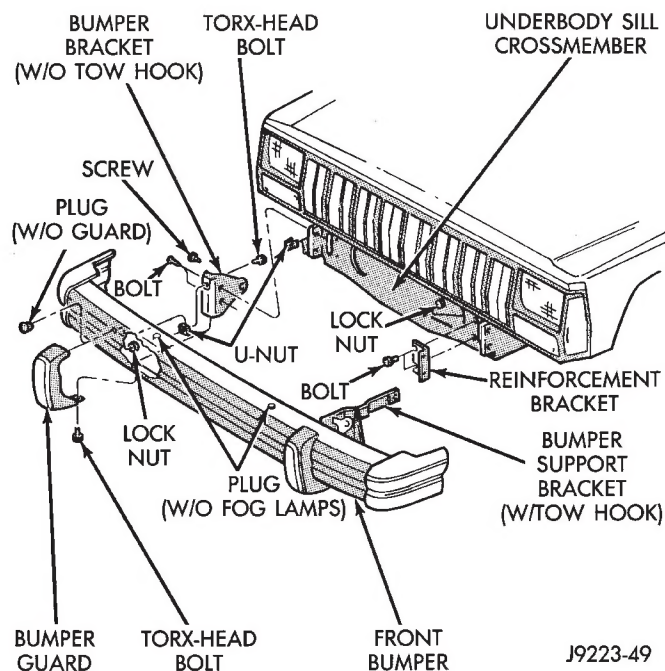
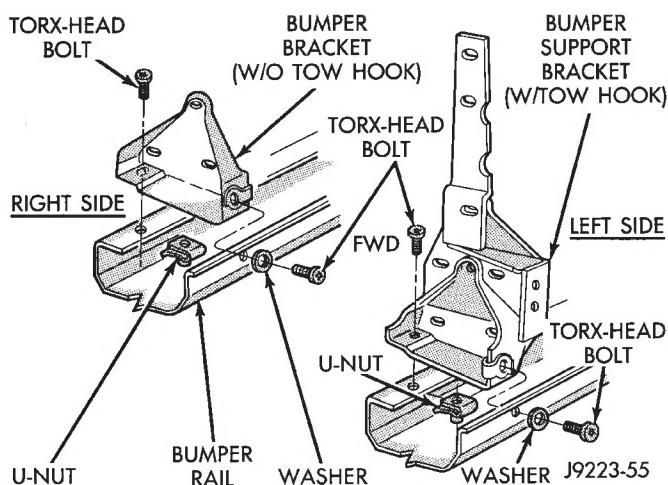
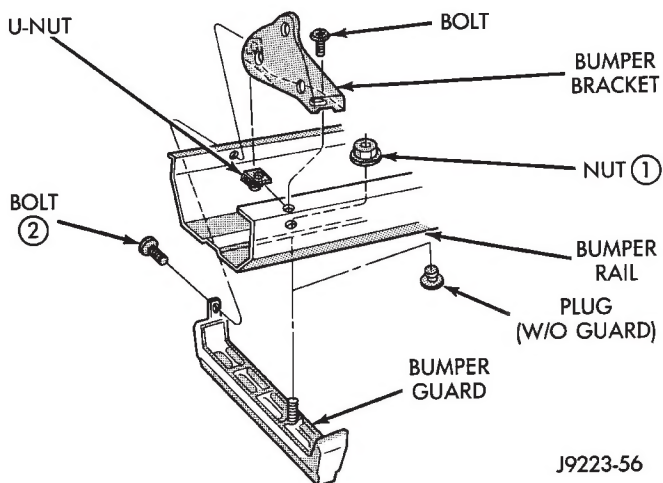
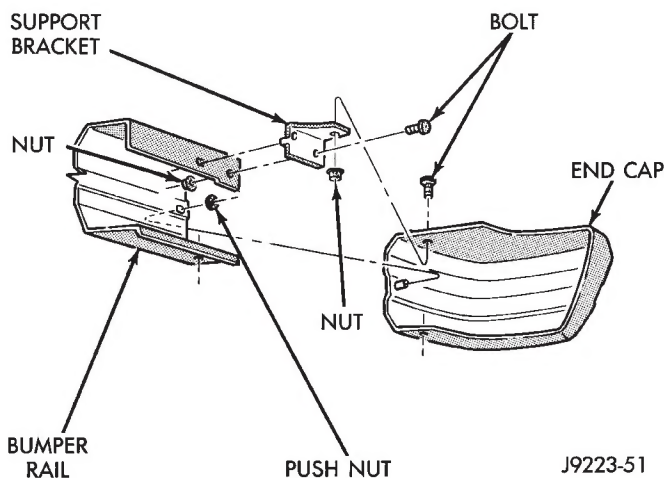

Fig. 5 Front Bumper Removal/Installation
Fig. 6 Bumper Support Bracket Removal/Installation
Fig. 7 Bumper Guard Removal/Installation
Fig. 8 Bumper End Cap Removal/Installation
(5) Detach the tow hook straps from the sillmember.
(6) Support the bumper.
(7) Remove the bolts that attach the bumper support brackets to the right and left sillmembers (Fig. 5).
(8) Remove the support and the bumper from the vehicle (Fig. 5).
(9) Remove the nuts and bolts that attach the tow hooks to the bumper support brackets.
(10) Remove the support brackets (Fig. 6), bumper guards (Fig. 7) and caps (Fig. 8) from the bumper rail.
(2) If equipped, install the bumper support brackets and bumper guards on the bumper rail. Tighten hardware in the sequence indicated in (Fig. 6). Tighten the locknuts with 20 N·m (15 ft. lbs.) torque. Tighten bolts to 56 N·m (41 ft. lbs.) torque.
(3) If not equipped with bumper guards, install the bumper support brackets on the bumper rail. Tighten bolts to 56 N·m (41 ft. lbs.) torque.
(4) Install tow hooks. Tighten nuts with 100 N·m (74 ft. lbs.) torque.
(5) Install the bumper end caps on the bumper rail. Tighten nuts with 8 N·m (72 in. lbs.) torque.
(6) Install the license plate bracket on the bumper rail. Tighten the nuts securely.
(7) Install the fog lamps on the bumper rail. Tighten the nuts to 20 N·m (15 ft. lbs.) torque.
(8) If removed, install the vacuum reservoir(s) on the bumper rail. Tighten the retaining screws and bolts to 8 N·m (72 in. lbs.) torque.
(9) Position and support the bumper at the front of the vehicle.
(10) Attach the bumper support brackets to the right and left sillmembers and reinforcement brackets. Tighten screws and bolts to 56 N·m (41 ft. lbs.) torque.
(11) Install the Torx-head bolts and locknuts that attach the tow hook straps to the underbody sillmember. Tighten locknuts with 30 N·m (22 ft. lbs.) torque.